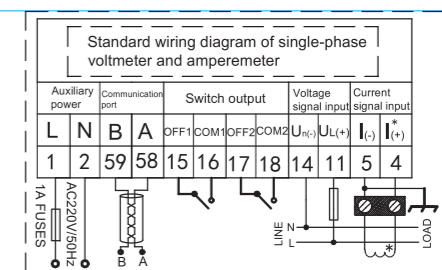

Fig. 3
6.4 Wiring Diagram (see Fig. 3)